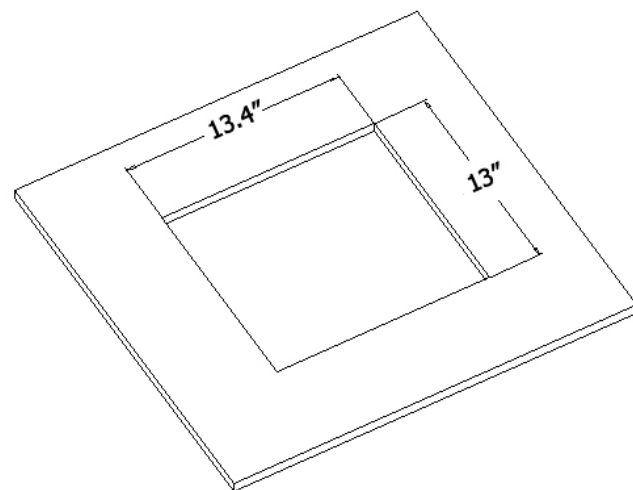

Figure 2 - Cutout Dimensions
Step 2 – Place the *enclosure assembly* on the work surface. Remove one of the 1" trade size hole cover on the side of the enclosure and install the 1" trade size conduit connector (the side on which the trade size cable clamp is to be installed will be determined by the location the enclosure is to be installed and direction from which conduit will be brought into the enclosure – ref. *Figure 2*).